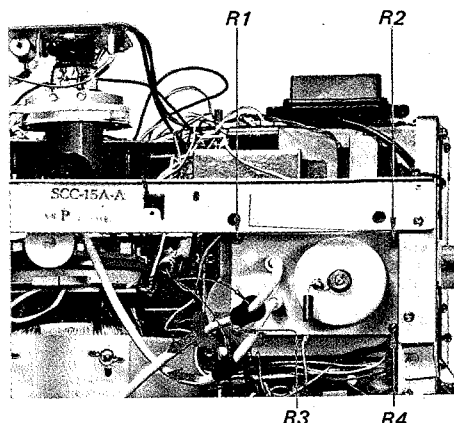

Fig. 2-24.
3. Move the two caps in the direction shown by the arrows in Fig. 2-24.
4. Remove the four screws labeled R1 ~ R4 in Fig. 2-24.